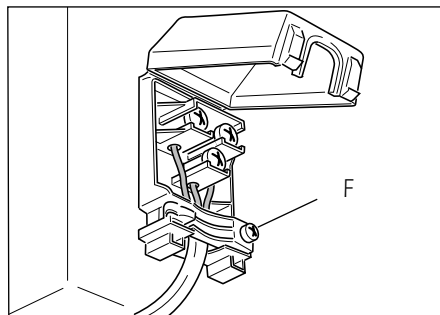

Fig. 8
- Open the cable crimp by unscrewing screw "F" (Fig. 8), unscrew the terminal screws and remove the cable.